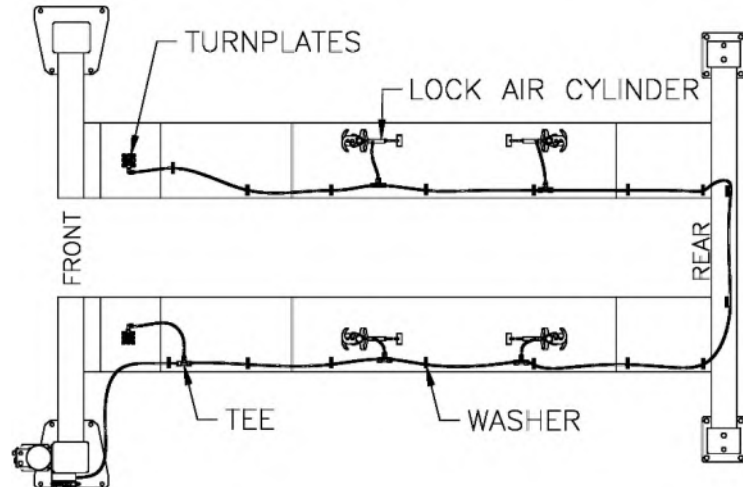

Fig 33- Lights & Locks Air Line Routing
- 72) Route the rear red air line coming out of the rear cross member through each ring and connect to the tee for both the idler and power side. See **Fig 33**.